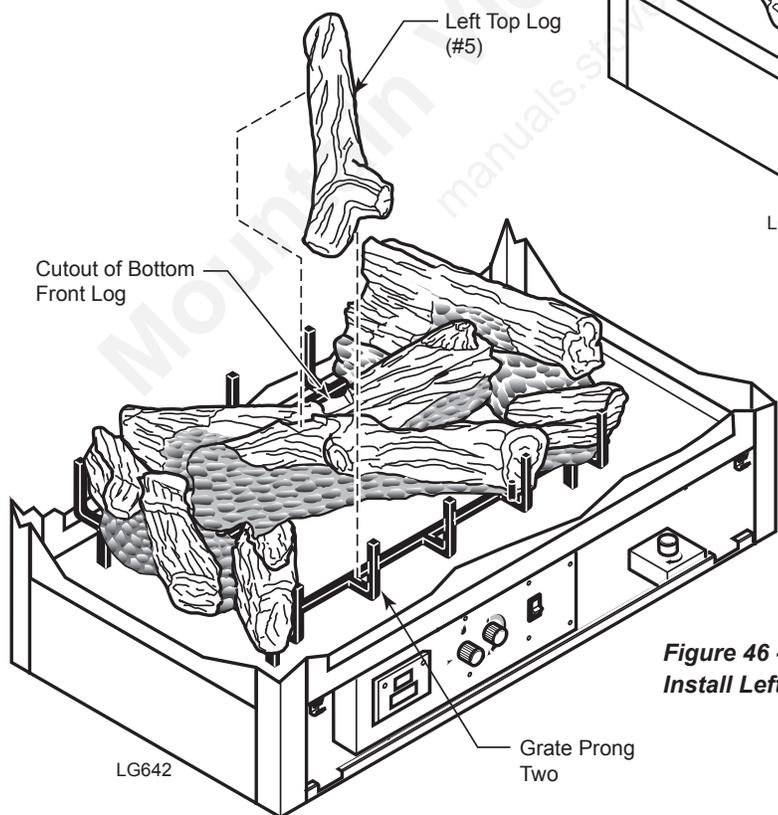

**Figure 44 -
5. Position left end of bottom center back log (#3) beside rear end of left log (#1). Line up pin on grate with pin hole in bottom of center back log (#3) Snug right end of bottom center back log (#3) to the middle of right log (#2). *Figure 44*